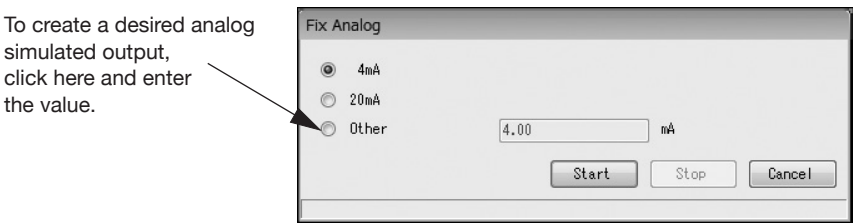
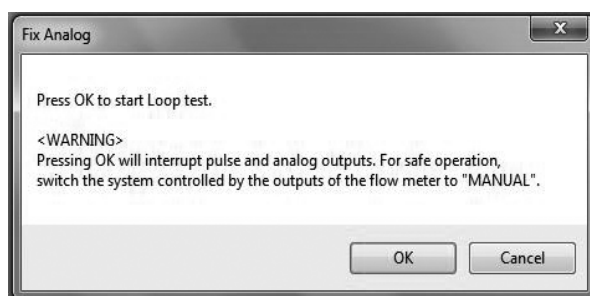

Fig. 3-49
Fig. 3-50
(1) Click "Diag/Service (T)" from the menu, and then click on "Fix Analog" from the drop-down list of "Loop Test".
(2) The following window (Fig. 3-49) will be displayed. Select the simulated output value and click "Start" button. To set and output a desired current value, select "Other" and enter the value to be output, then click "Start" button.
- (3) By clicking "Start" button, the message box (Fig. 3-50) will be displayed. By clicking "OK" button, "Fix Analog" will be started. By clicking "Cancel" button, the window will return to the window shown in Fig. 3-49.